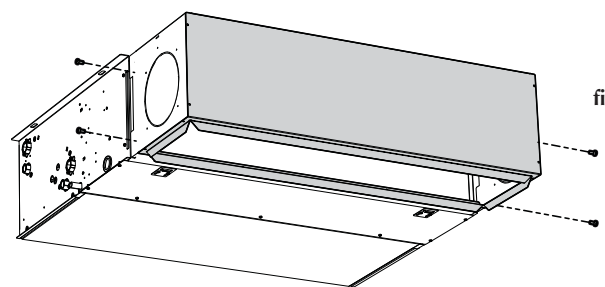

fig.11
- Install the two fixing brackets in the appropriate side slots and fasten them using the two screws provided (fig.11)